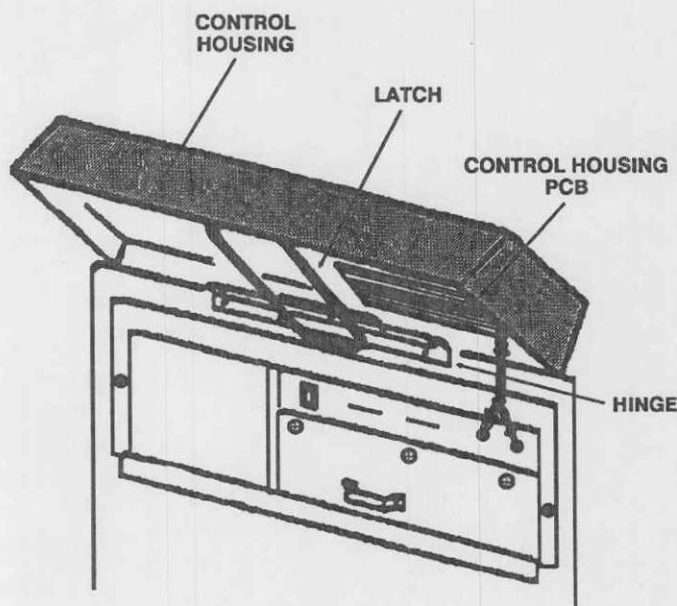
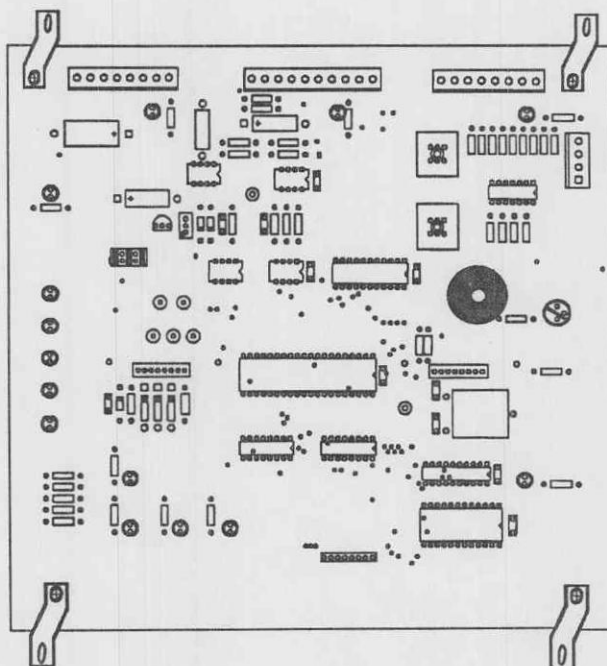

Figure 3-1. Control housing PCB location.
Figure 3-2. Control housing PCB.
The control housing PCB is located on the underside of the control housing behind the control panel. (See fig 3-1 and fig 3-2.)
(4) Check that the following LEDs on the PCB (fig 3-2) are illuminated: